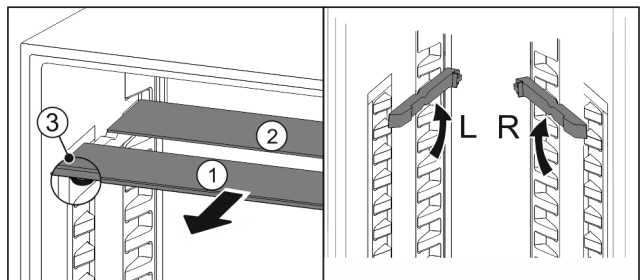

Fig. 82
- ▶ Pull the glass panels out Fig. 82 (1) from the front, one at a time.
- ▷ The glass panel Fig. 82 (1) and trim strip are at the front.
- ▷ The stops Fig. 82 (3) point down.